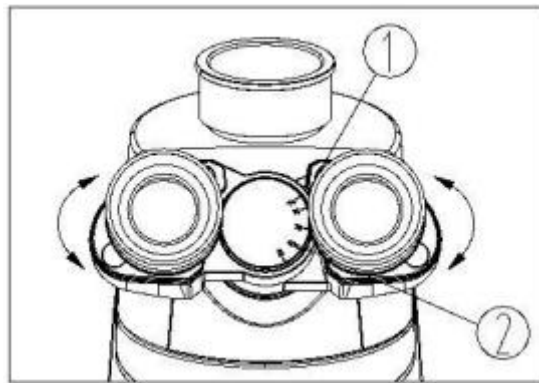

Figure 29
2. The "①" on the eyepiece base should align with the scale (②) of the interpupillary distance indicator, which shows the value of the interpupillary distance (see Fig. 29).